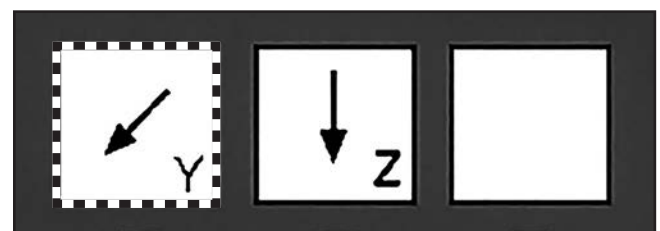

Figure 79. Down-left Y-axis traverse key.
4. Press and release down-left Y-axis traverse key (see **Figure 79**).